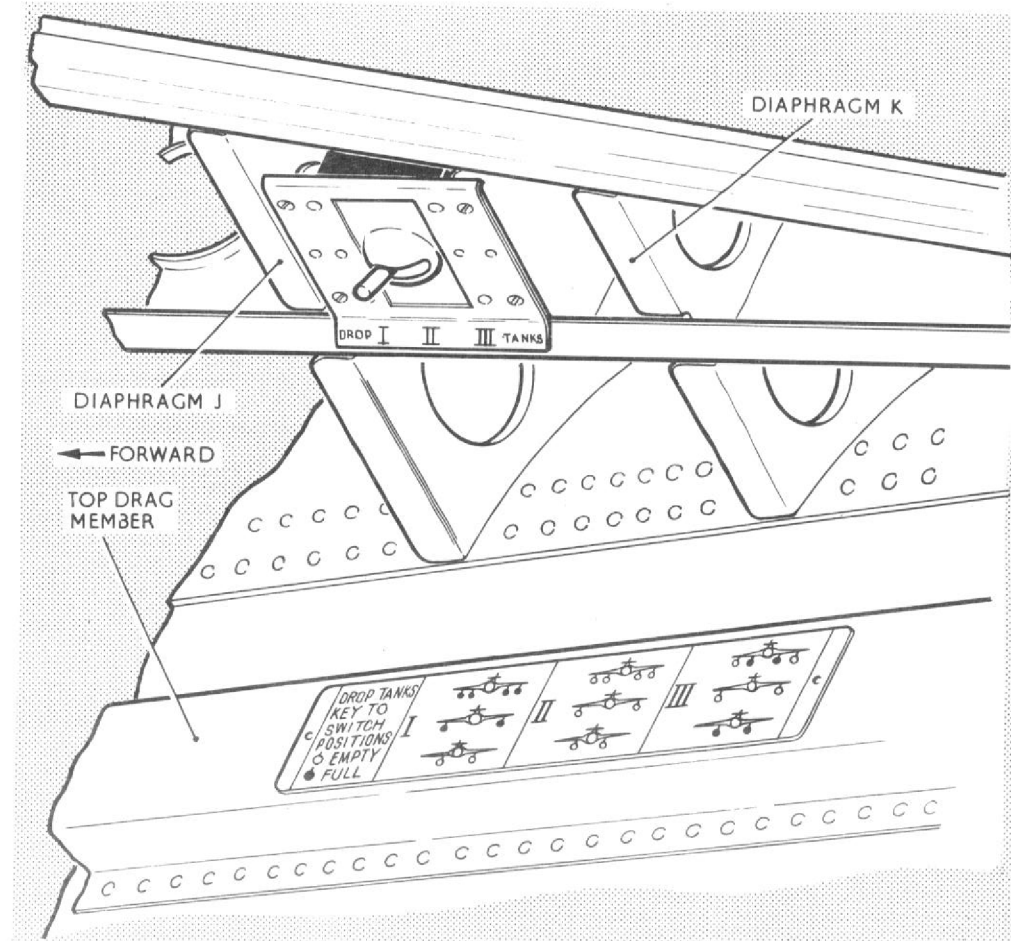

Fig. 2A. Drop tank refuelling selector switch
A switch (fig. 2A) in the port stub wing (accessible through the port wheel bay) enables selective refuelling, according to the position of the switch, of either, wing tanks only, wing tanks and inboard drop tanks or wing tanks, inboard and outboard drop tanks. In the latter position, when inboard drop tanks are not fitted, the wing and outboard drop tanks will be refuelled.
**KEY TO FIG. 2A—Drop tank refuelling selector switch**